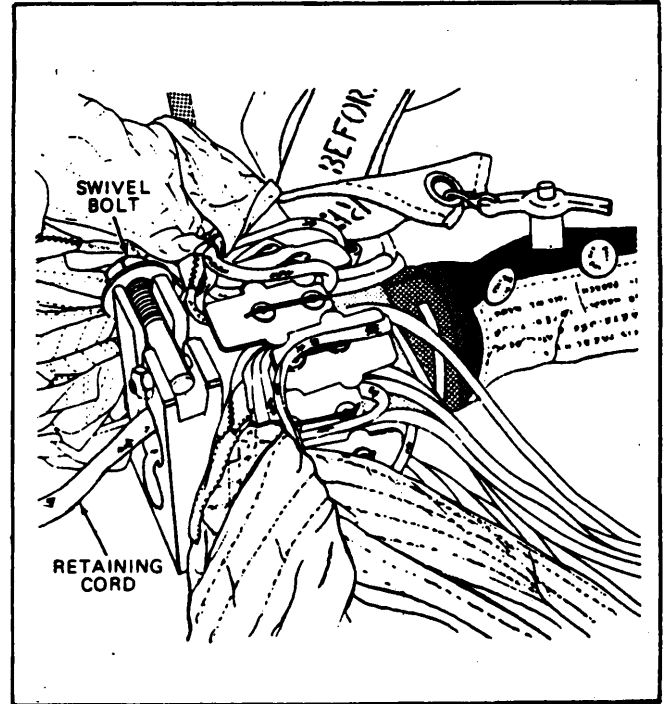

Figure 2-22.—Placing spreader gun in gun clamp.
3. Then place the cartridge end of the spreading gun into a spreading gun clamp assembly (fig. 2-22). Ensure that the lip on the clamp assembly circles the spreading gun housing. Route the retaining cord through the vertical slot in the center of the clamp and spread suspension lines to prevent entrapment between gun and clamp. Position the swivel bolt in the horizontal slot in the clamp, and torque the swivel bolt nut to $7 \pm 1/2$ foot-pounds.